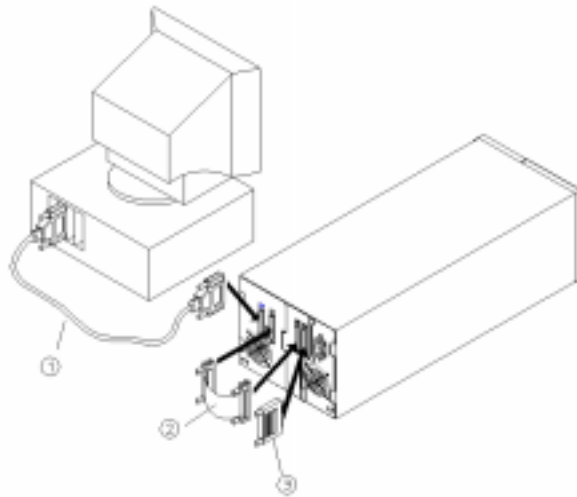
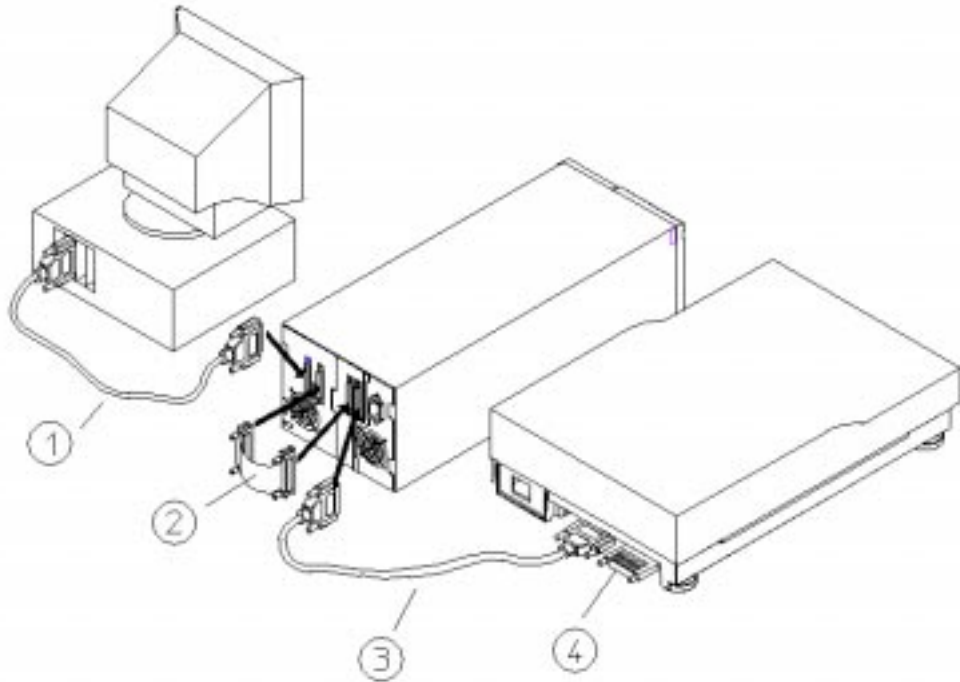

FIGURE 1-9 Autoloader as the Only Peripheral
FIGURE 1-10 Autoloader With Other Peripherals
5. **Ensure the SCSI terminator is installed as shown in FIGURE 1-9 or FIGURE 1-10.**